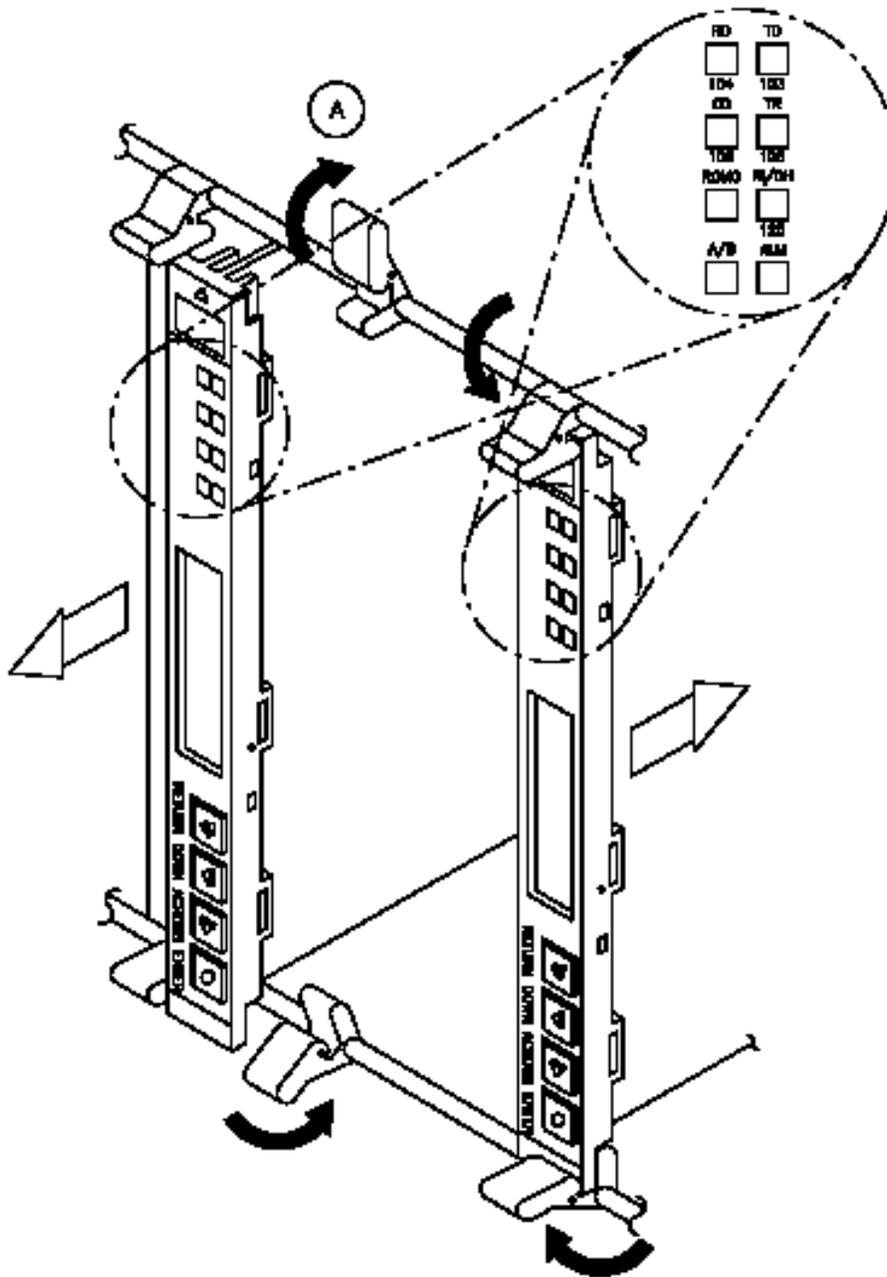

Figure 1. Modem Removal and Installation Example
- b. Remove the modem card from the enclosure by rotating the card ejectors simultaneously at the top and bottom of each modem that hold the card in place and carefully sliding the card out from the enclosure as shown in figure 1.
- d. Install the replacement unit by sliding the card into the enclosure while the ejectors are in position A as shown in figure 1. When the modem card makes contact with the ejectors, swing the ejectors inward toward the card and press to ensure proper seating of the card.